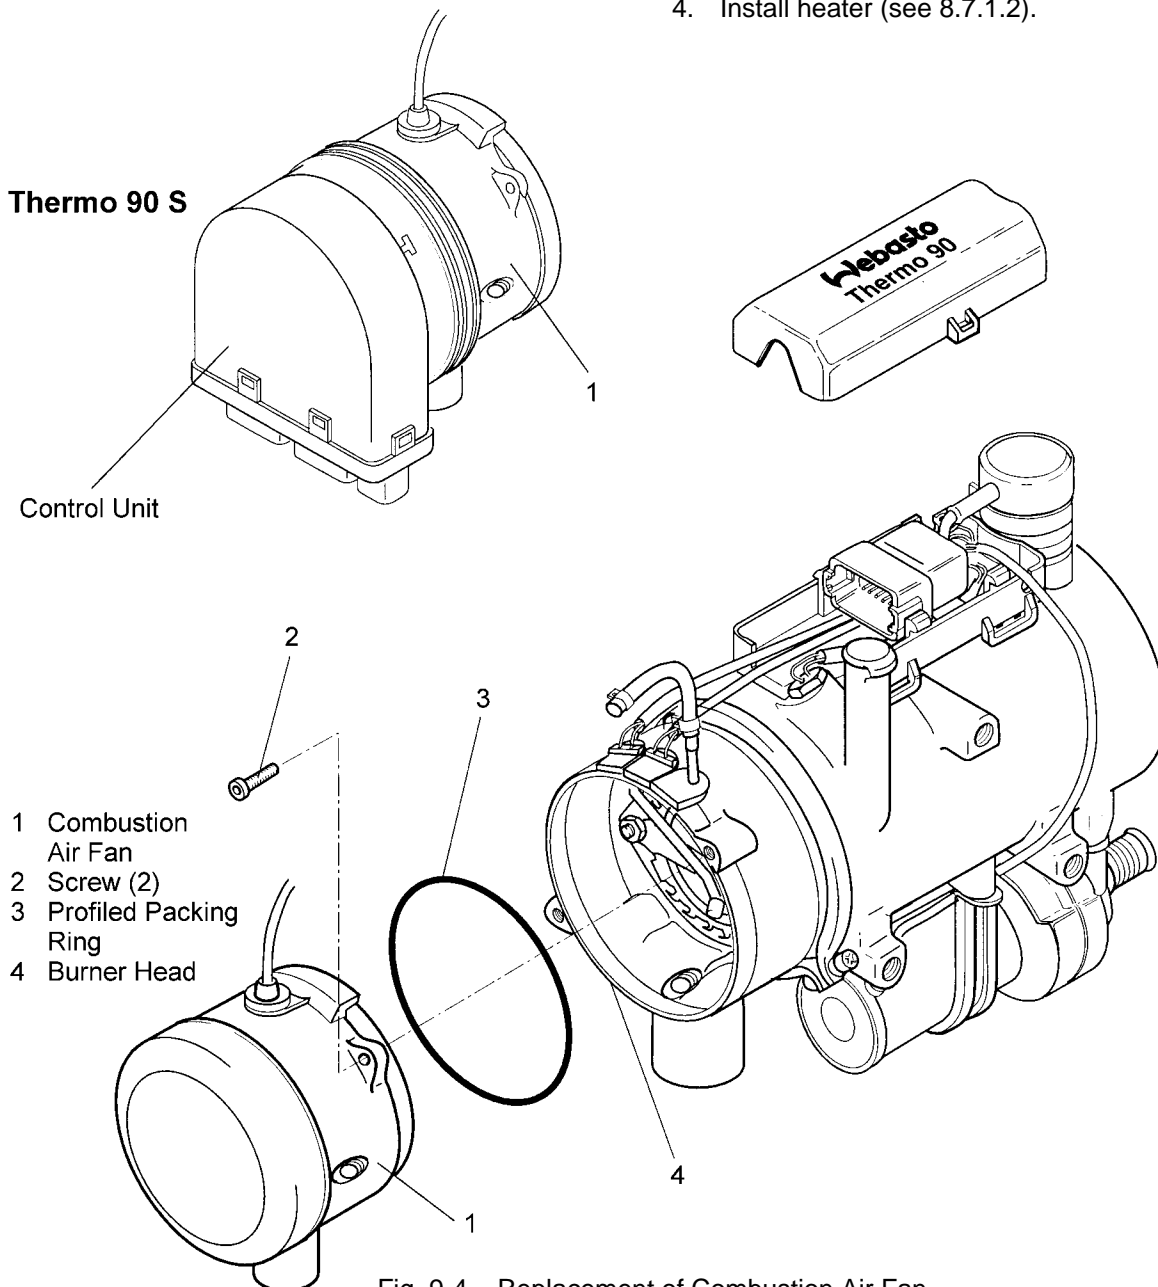

Fig. 9-4 Replacement of Combustion Air Fan
1. Apply acid free grease (Vaseline) to O-ring (5, Fig. 9-4).
2. Screw temperature sensor (6) with O-ring (5) into heat exchanger (4) and torque tighten to 1.5 Nm \pm 10%.
3. Remove screws (2, Fig. 9-4).
4. Pull combustion air fan (1) from burner head (4) and remove together with profiled packing ring (3).
Locate packing ring (3, Fig. 9-4) properly; do not squeeze.